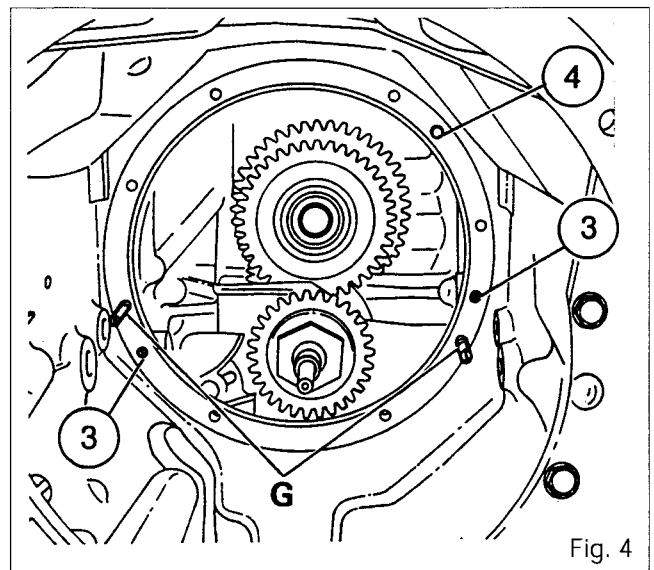

Fig. 4
10. On the housing, position the new O-rings **(3)** and the locating pin **(4)** (Fig. 4).
11. On the gearbox, screw in two locating studs «G», as per Fig. 4. Position the unit in the housing, using the sling.